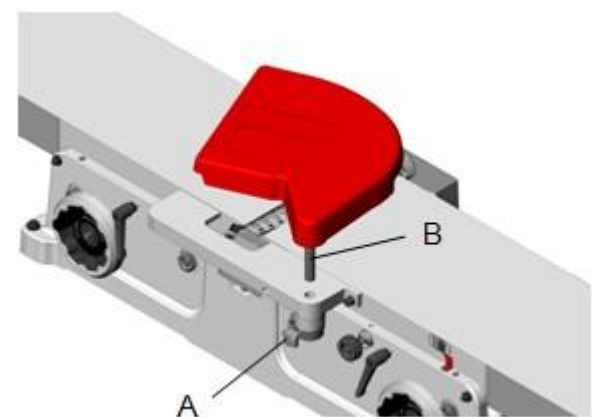

Fig. 3
2. Turn knob (A) counterclockwise to create tension on spring, and hold it there Fig 3.
3. Insert guard post (B) down through hole in front of ledge.
4. Slightly turn set (A), if necessary, until the guard seats itself, and the spring engages the slot at the end of the guard post.